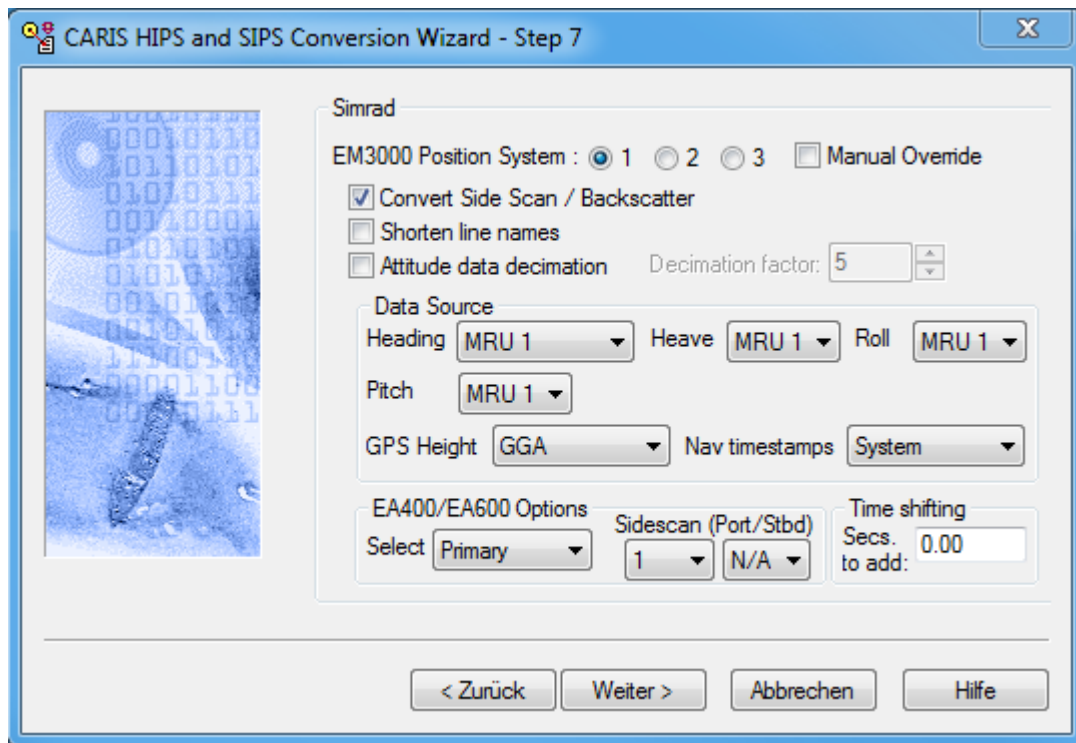

Figure 19: Step 7 of the Conversion Wizard
6. Start conversion by clicking **Next** (Figure 19)